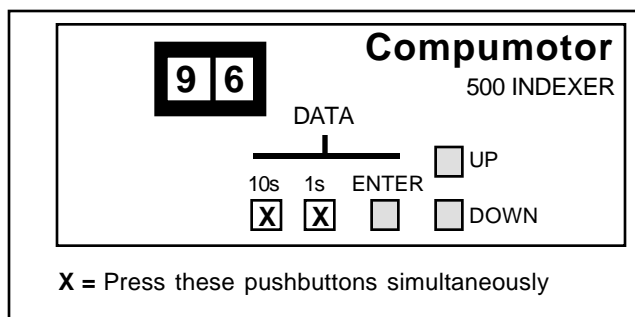

Figure 2-5. Displaying the Baud Rate
- ① Apply power to the Model 500. Both of the front panel green LEDs (**POWER** and **CPU READY**) should come on.
- ② To display the current baud rate setting (*the first two digits of the baud rate are shown*), push the **10s** and **1s** buttons at the same time as shown in Figure 2-5. The default baud rate for the Model 500 is 9600.